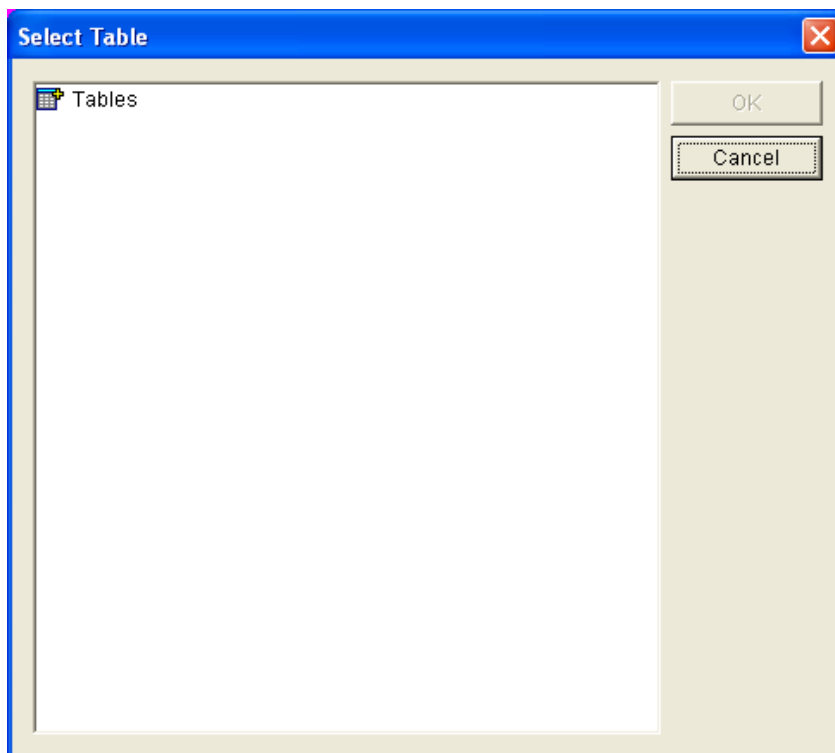

Figure 4-6
- **Change Table:** Select another table to retrieve information (see Figure 4-6).